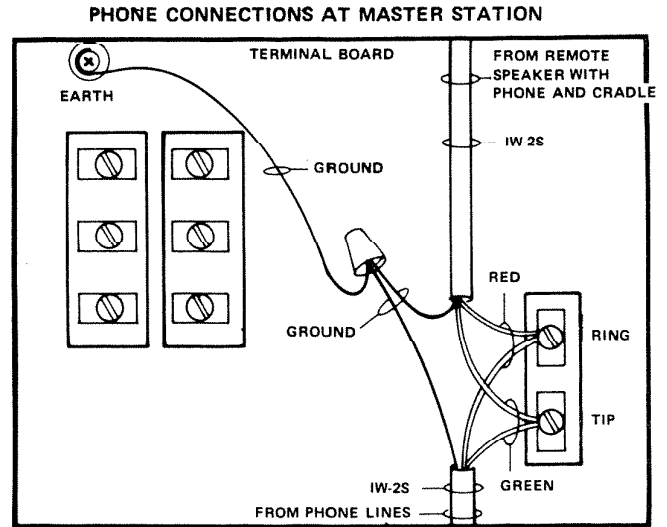

FIGURE 8
1. The IM-3103 Series Radio Intercom master unit has a built-in telephone and telephone answering machine. For this purpose, NuTone IW-2S two-conductor insulated cable (shielded twisted pair) must be run from the incoming phone lines to the master unit location. See Figure 8. **(Use only specified wire.)**
2. Connect phone wires and any optional remote phone wiring to two terminal screws marked **PHONE** on the master panel's terminal board. See Figure 8.
3. Connect IW-2S ground wire to **EARTH** ground screw in the upper left corner of the terminal board. For more than one phone cable, twist all the IW-2S ground wires together and connect to a common jumper wire using a wire nut. Connect the jumper wire to Earth ground screw. See Figure 8.